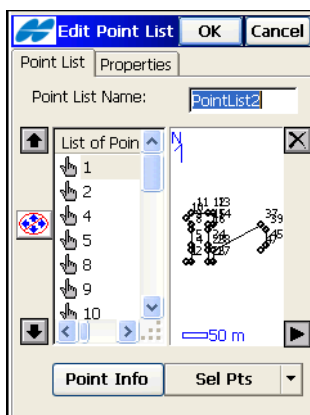

Figure 6-40. Edit Point List
- **Edit** – edits the properties of the selected List. The *Edit Point List* screen displays (Figure 6-40 on page 6-35).
The *Edit Point List* screen (Figure 6-40 on page 6-35) is similar to the *Add Point List* screen and consists of two tabs: *Point List* and *Properties*.